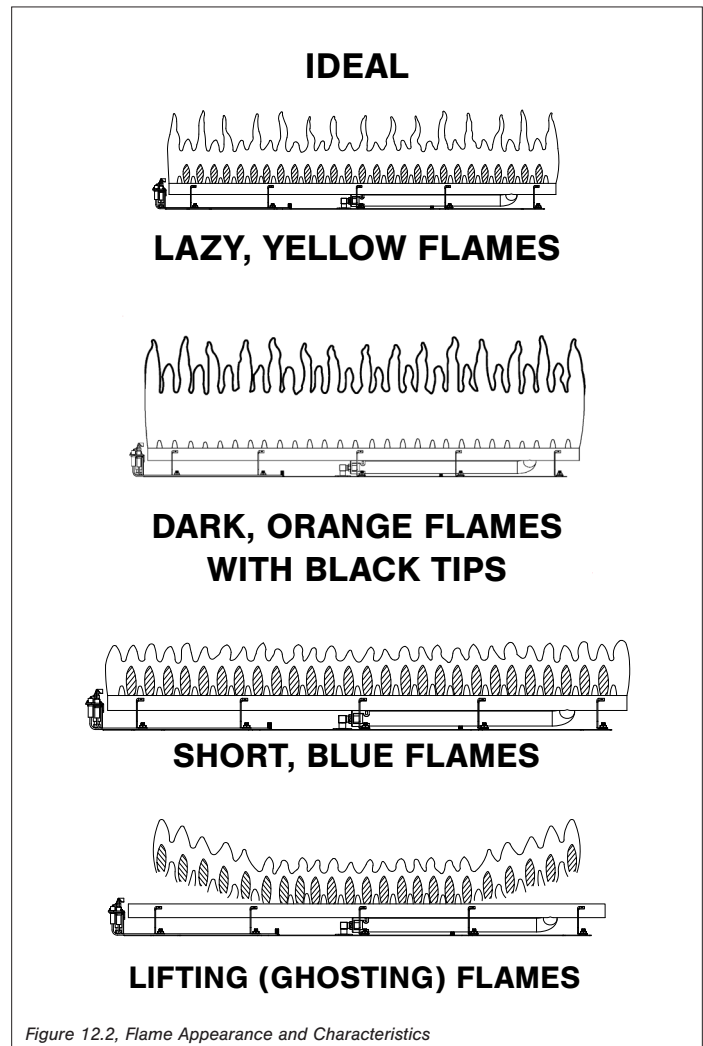

Figure 12.2, Flame Appearance and Characteristics
- Visually check pilot light and burner flame pattern when in operation. Flames should be steady, not lifting or floating. Refer to Figure 12.2, Flame Appearance and Characteristics on page 42.